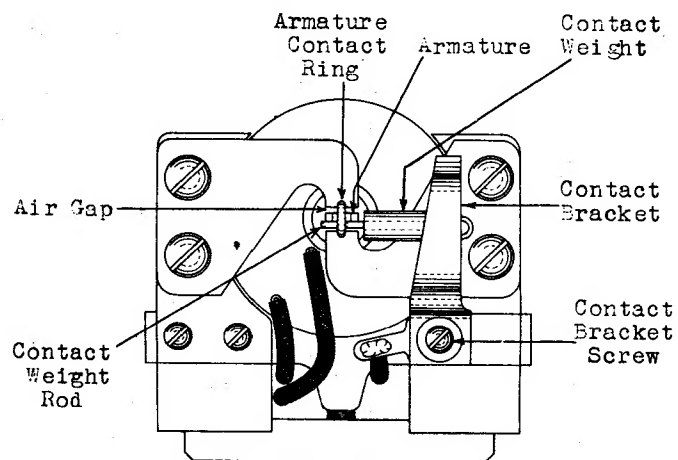

Figure 4
2.04 Air Gap Fig. 4 - The air gap between the pole pieces and the armature shall be